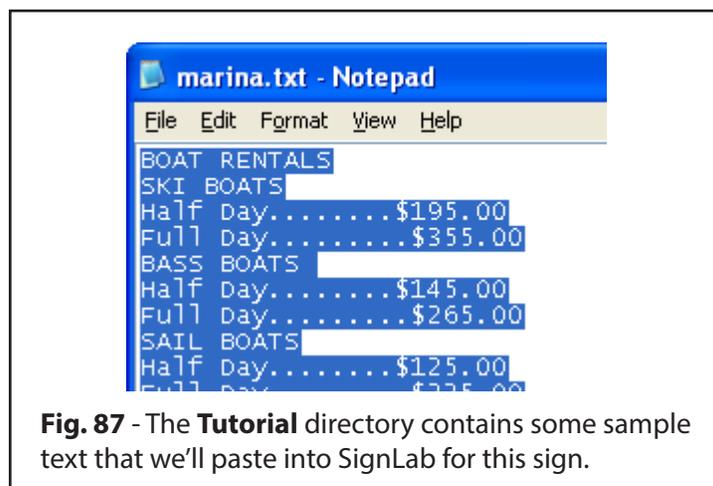

Fig. 87 - The **Tutorial** directory contains some sample text that we'll paste into SignLab for this sign.
3. From the Notepad **Edit** menu, choose **Select All** (Fig. 87).